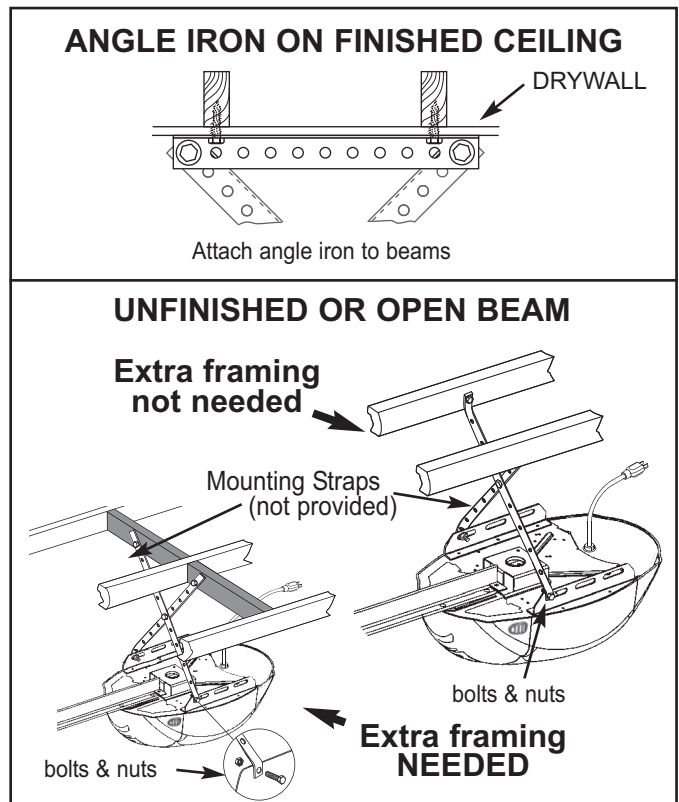

FIG. 2-6 Mounting the power head.
- On **finished** ceilings, locate ceiling joists or trusses using a stud finder or similar device. Attach angle iron (not provided) to joists or trusses through finish material using (provided) lag screws (**Fig. 2-6**).
- On **unfinished** ceilings or open ceilings, straps may attach directly to joists or trusses. Depending on the garage construction, extra framing material (not provided) which may be required should be installed using appropriate construction techniques (**Fig. 2-6**).
- Attach mounting straps (not provided) to ceiling using lag bolts (**Fig. 2-6**).
- Set height of power head to following (**Fig. 2-6**):